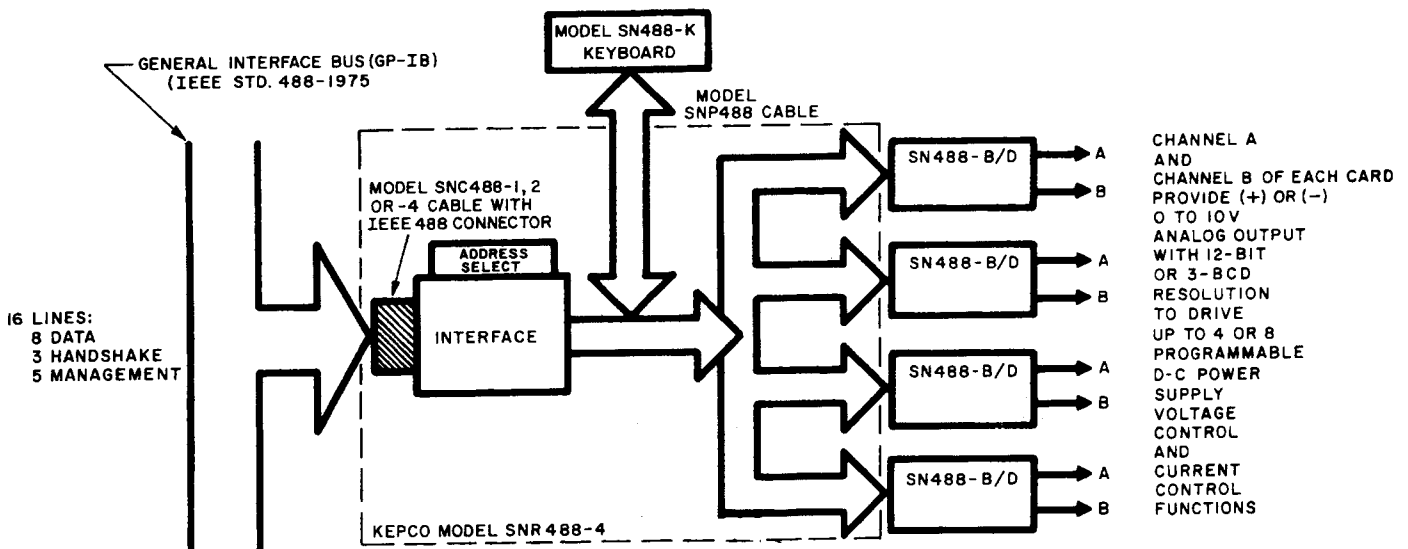

FIG. 1-1 BLOCK-DIAGRAM, KEPCO 488 PROGRAMMING SYSTEM ( EXAMPLE )
1-5 The KEPCO SN 488 PROGRAMMING SYSTEM is designed to interface Kepco's programmable power supplies with the GENERAL PURPOSE INTERFACE BUS ( GPIB ), per IEEE STD. 488-1975. A typical Kepco SN 488 PROGRAMMING SYSTEM is shown in the form of a block diagram in FIG. 1-1. The system as shown, consists of the Model SNR 488-4 Rack Housing with interface card, four (4) plug-in Model SN 488-B or SN 488-D Programming Cards, a Model SN 488-K Keyboard with Model SNP 488 Cable, the bus connecting cable Model SNC 488 plus the programmable Kepco power supplies. Since each Model SN 488-B or SN 488-D Programming Card has two independent control channels, the system shown in FIG. 1-1 can program four (4) power supplies, providing independent control of each supply's voltage and current channel for example.